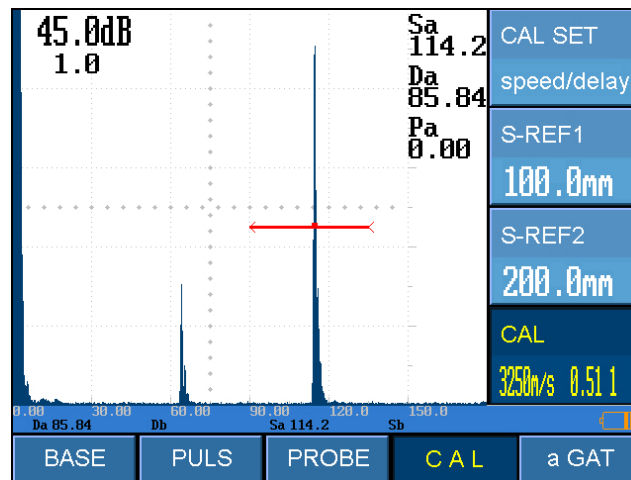

Figure 6-6 Move Gate A to Capture the Echo of R100 Arc
- (5) Move Gate A to capture the echo of R100 arc (refer to Figure 6-6). Enter the CAL submenu and press [+] key to confirm, then echo 2 is recorded. Meantime,